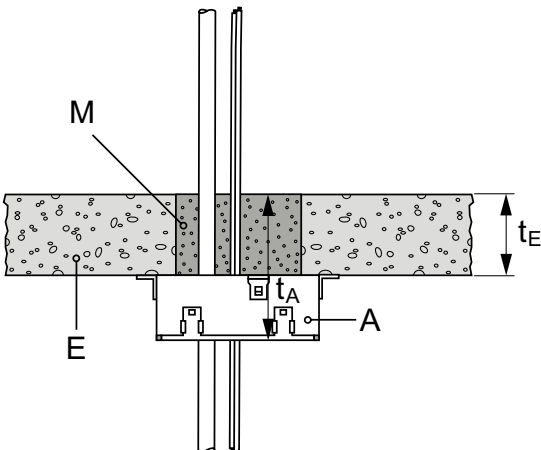

Fig. 5: Seal type:
For floor applications, the annular space between services and floor edges (E) has to be filled with standard gypsum and lime or cement-based mortar (M) with a compressive strength minimum 1 N/mm^2 (M1-M10 mortar in accordance with EN 998, e.g. Hilti CP 636), as shown in fig. 5.